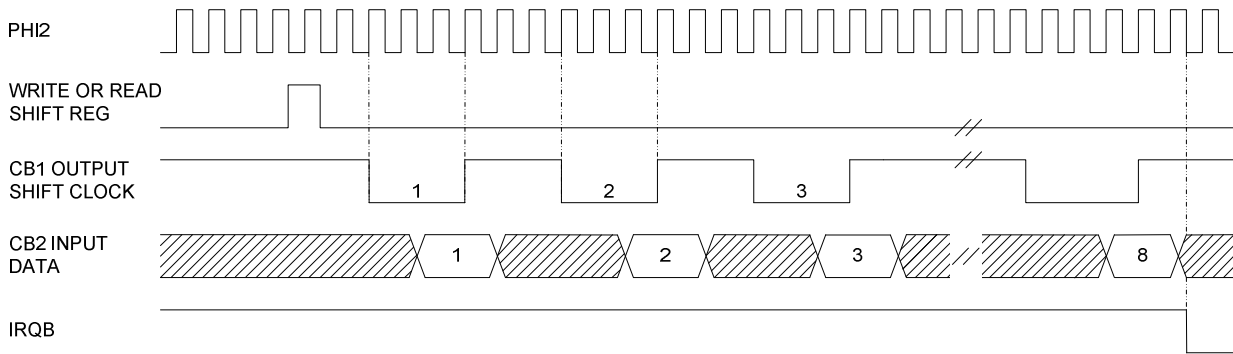

Figure 2-6 Shift In - Counter T2 Control
The Shift Register (SR) performs bidirectional serial data transfers on line CB2. These transfers are controlled by an internal modulo-8 counter. Shift pulses can be applied to the CB1 line from an external source, or (with proper mode selection) shift pulses may be generated internally which will appear on the CB1 line for controlling external devices. Each SR operating mode is controlled by control bits within the ACR. See Table 2-10 for control bit information. See also Figures 2-6 through 2-12.
2.12.2 Shift In - Counter T2 Control (001)
In this mode, the shifting rate is controlled by the low order eight bits of counter T2. Shift pulses are generated on the CB1 line to control shifting in from external devices. The time between transitions of the CB1 output clock is determined by the PHI2 clock period and the contents of the low order T2 latch (N). Data is shifted into the low order bit first, and is then shifted into the next higher order bit on the negative going edge of each clock pulse. Input data should change before the positive going edge of the CB1 clock pulse. This data is then shifted into the SR during the PHI2 clock cycle following the positive going edge of the CB1 clock pulse. After eight CB1 clock pulses, IFR2 will set and IRQB will go to a Logic 0. Reading the SR clears IFR2 and is ready to receive another 8 bits. See Figure 2-6.